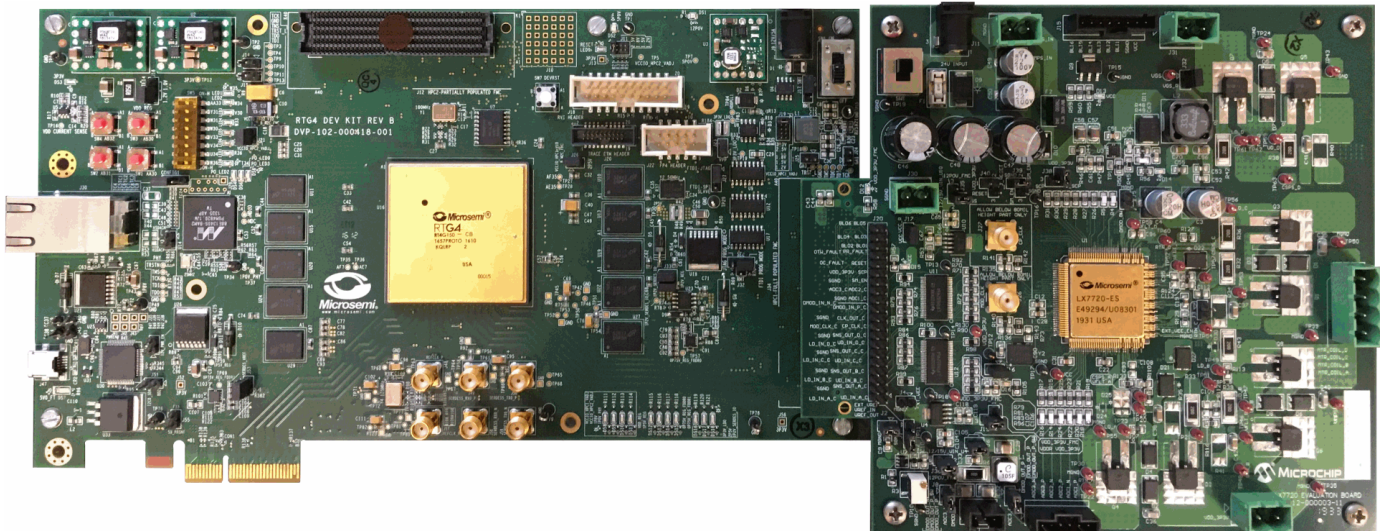
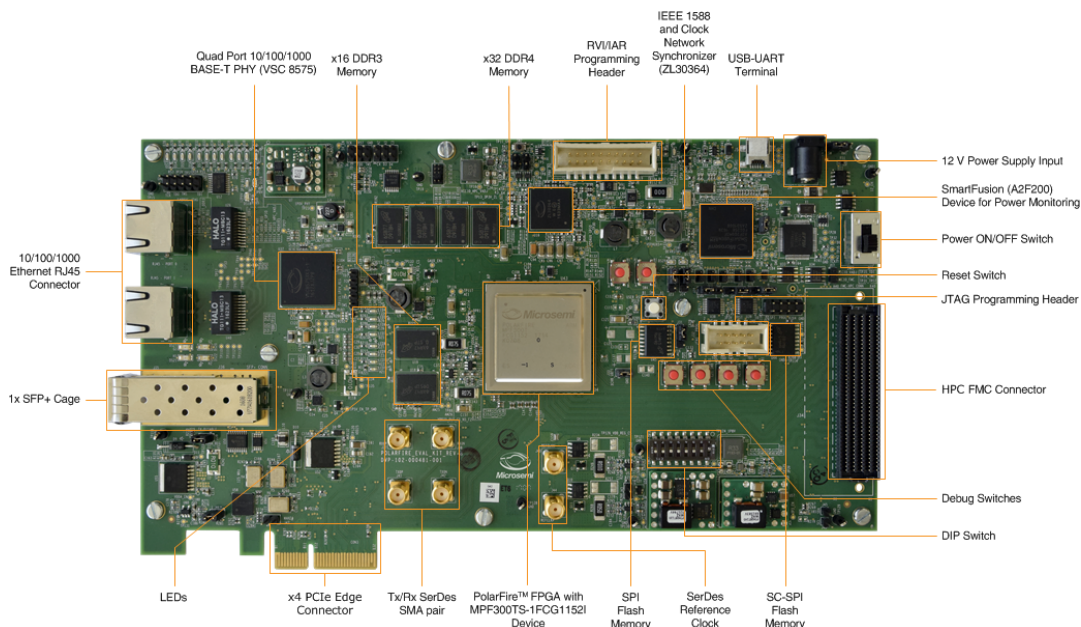
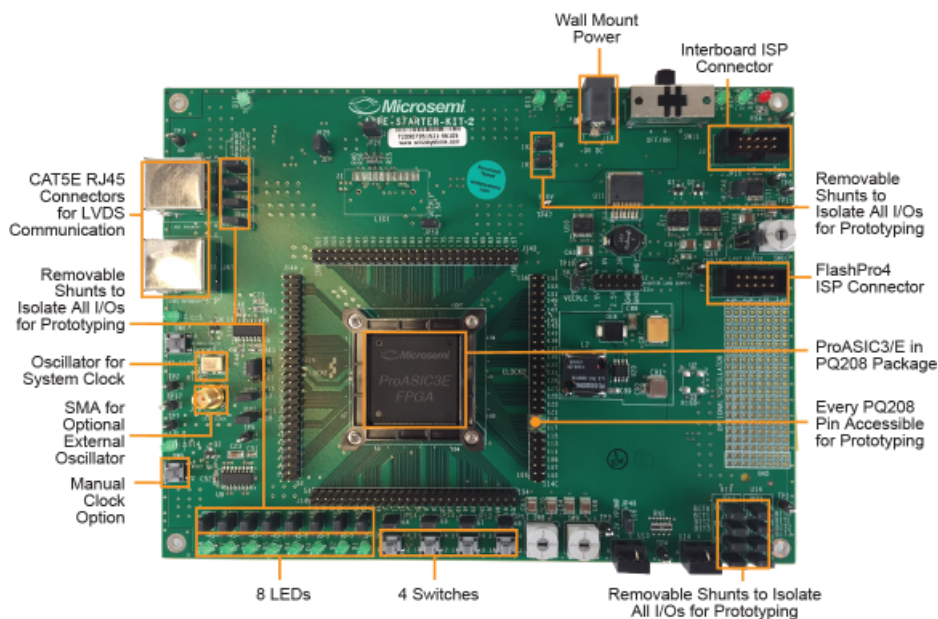
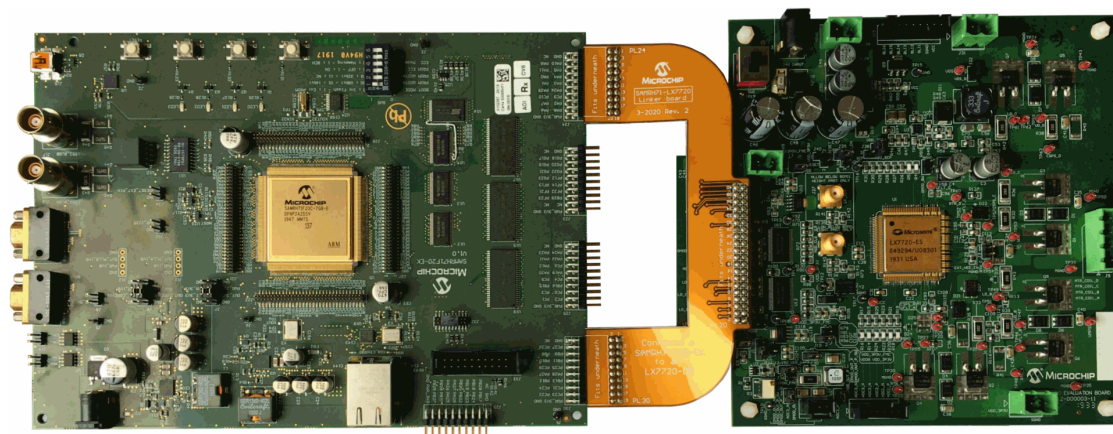

Figure 1. LX7720 Daughter Board Connected to RTG4 DEV-KIT using the FMC Connector
Figure 2. PolarFire MPF300-EVAL-KIT Evaluation Kit Board with 300K LE PolarFire FPGA in an FCG1152 Package
Figure 3. ProASIC3E Starter Kit with A3PE1500-PQ208 FPGA
Figure 4. SAMRH71F20-EK Evaluation Kit with SAMRH71F20 Arm Cortex M7 (100MHz/200Dmips) microcontroller
The LX7720 daughter board uses an FMC connector for plug-in connection to the RTG4 FPGA DEV-KIT (Figure 1) and PolarFire FPGA MPF300-EVAL-KIT (Figure 2 on page 2) development boards. A 40-way header provides the same signals for connection to other boards such as the ProASIC3 FPGA Starter Kit (Figure 3 on page 2), the SAMRH71F20 MCU Evaluation Kit (Figure 4 on page 2), and the SAMV71Q21RT MCU SAM V71 Xplained evaluation kit.
- Connect the LX7720 daughter board to the RTG4 board through the FMC connectors (Figure 1 on page 1)